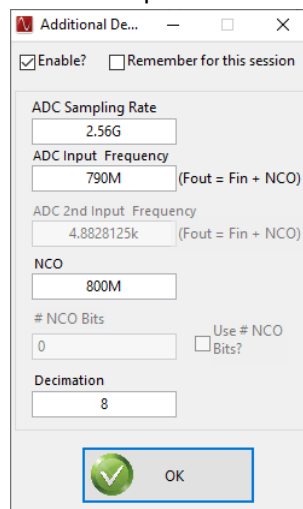

Figure 3-8. Additional Device Parameters , 8x complex decimation
- Check the box labeled *Enable?* and then enter the parameters shown in Figure 3-8.